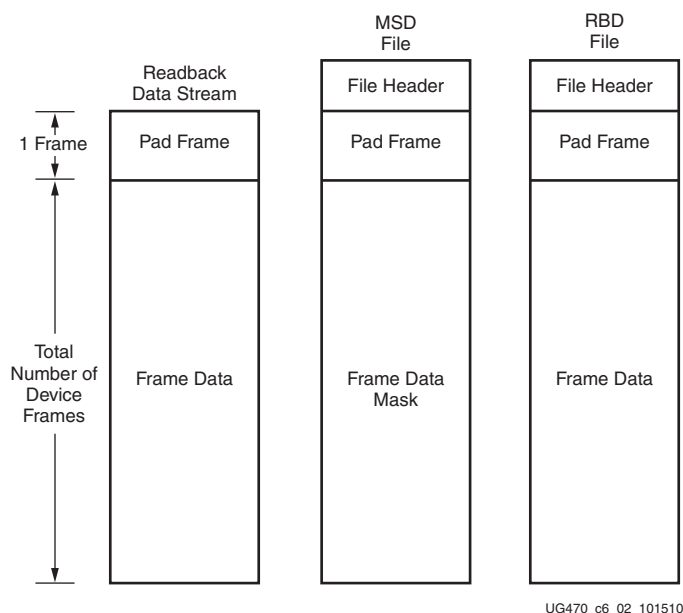

Figure 6-2: Comparing Readback Data Using the MSD and RBD Files
1. Compare readback data to the RBD *golden* readback file. Mask by using the MSD file (see Figure 6-2).